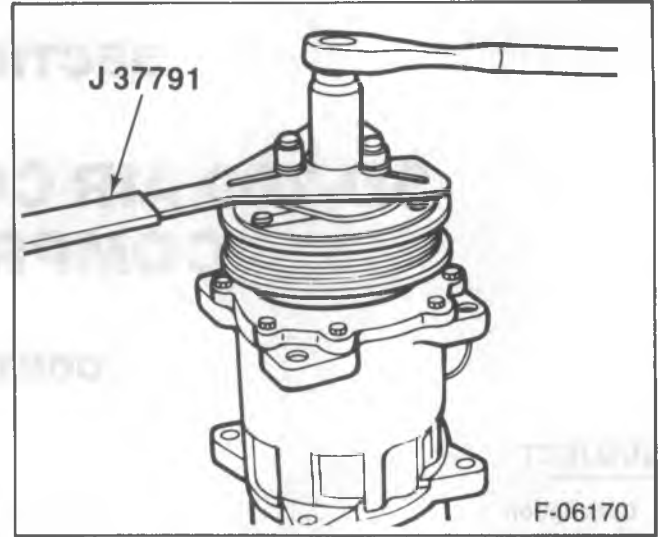

Figure 3—Removing the Nut
- Insert the two pins of the J 37791 into any two threaded holes of the clutch front plate (2). Hold the clutch plate stationary (figure 3).